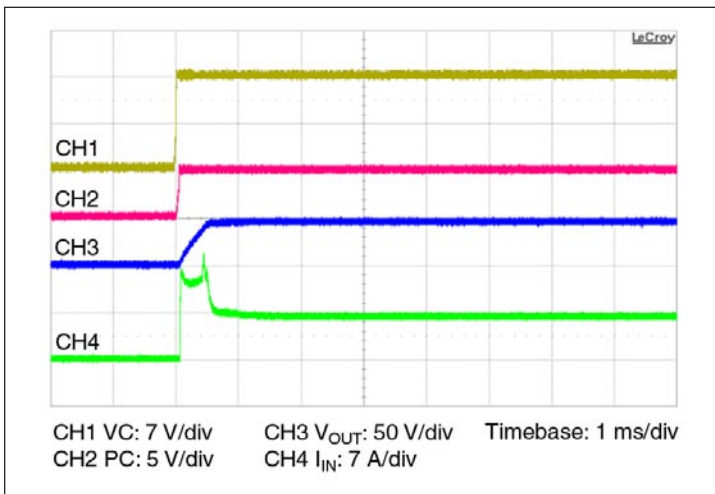

Figure 11 — Start up from application of VC;
- Stand-alone operation (VC applied after V_{IN}): In this case the VTM output will begin to rise upon the application of the VC voltage (See Figure 11). The Adaptive Soft Start Circuit (See Section 11) may vary the output rate of rise in order to limit the inrush current to its maximum level. When starting into high capacitance, or a short, the output current will be limited for a maximum of 1200 µsec. After this period, the Adaptive Soft Start Circuit will time out and the VTM module may shut down. No restart will be attempted until VC is re-applied or PC is toggled. The maximum output capacitance is limited to 100 µF in this mode of operation to ensure a successful start.